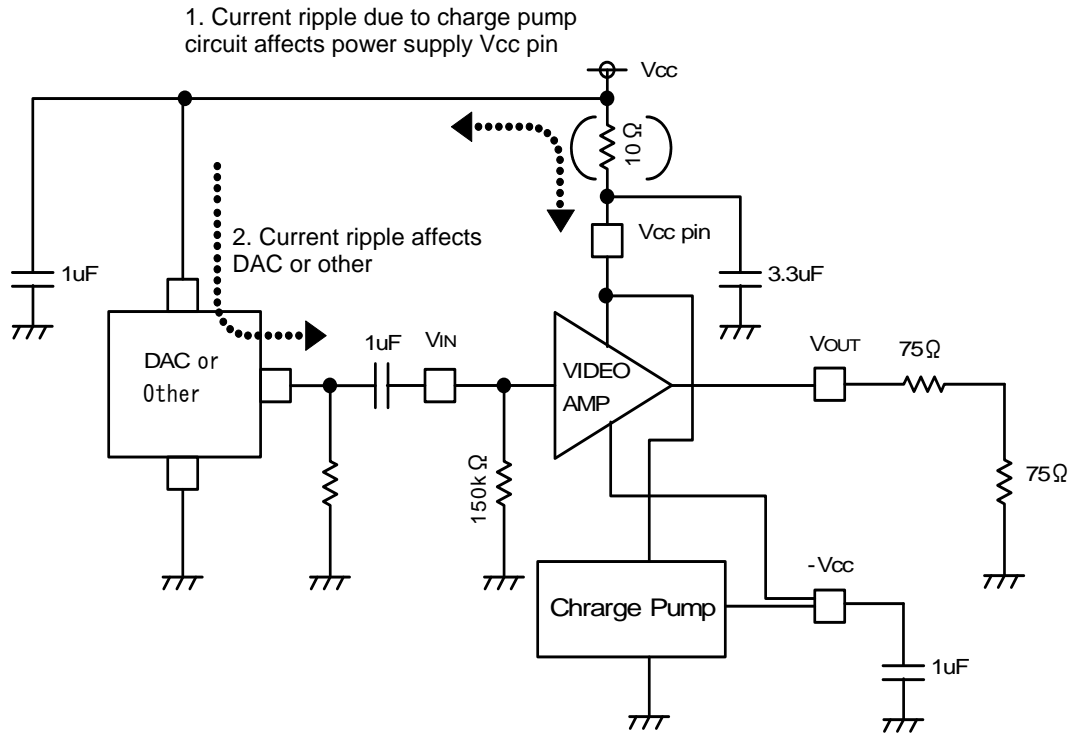

Fig.12 Effects of Charge Pump Circuit Current Ripple on External Circuit
- A large current transition occurs in the power supply pin when the charge pump circuit is switched. If this affects other ICs (via the power supply line), insert a resistor (approximately 10  $\Omega$ ) in the VCC line to improve the power supply's ripple effects. Although inserting a 10  $\Omega$  resistor lowers the voltage by about 0.2 V, this IC has a wide margin for low-voltage operation, so dynamic range problems or other problems should not occur. (See Figures 12 to 14.)